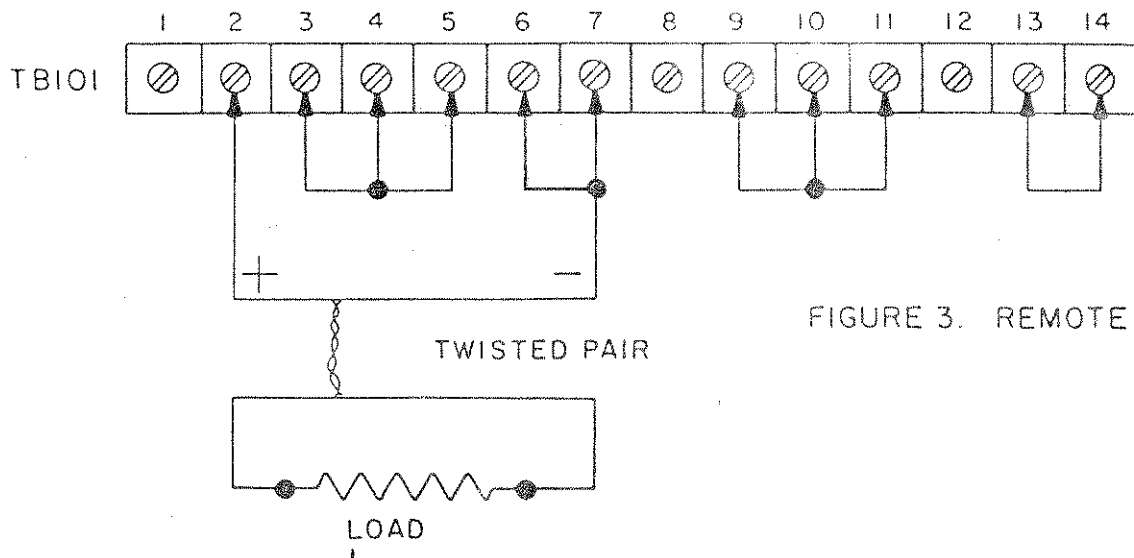

FIGURE 3. REMOTE SENSING.
3.3.2 REMOTE SENSING (Figure 3)